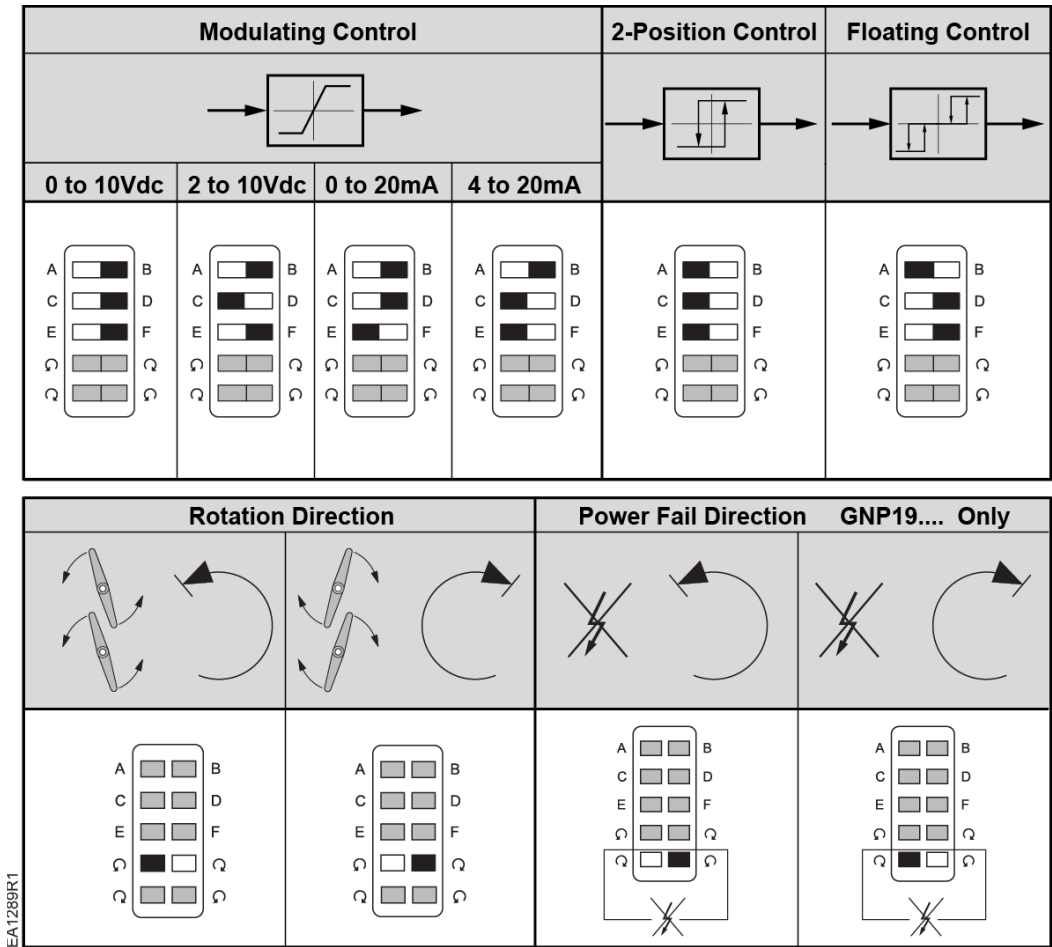

Figure 5. Setting.
In the event of a power failure, the GNP fail-safe actuator returns to the fail-safe position (see Figure 5.)
**NOTE:** The operation described above is valid for the factory default setting for rotation direction (see Figure 5 and Figure 6).